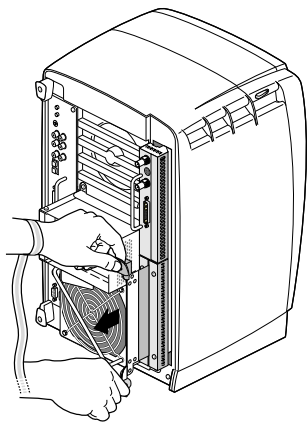

Figure 2-8 Releasing the XIO Tri-Module
2. Grasp the handles and pull them until the XIO Tri-Module protrudes about an inch from the chassis, as shown in Figure 2-8.